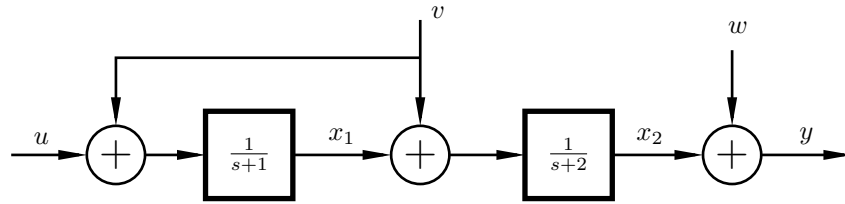

Figure 2 The system in Problem 4.
4. The block diagram for an electrical system is shown in Figure 2. A state-space model where the noise has been ignored can be written